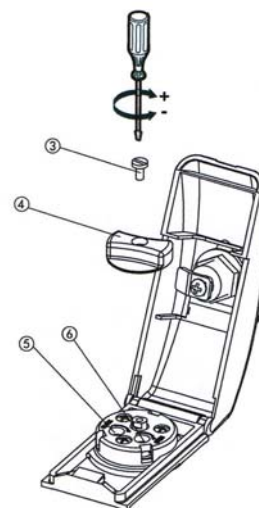

Figure 6. Locking Cap Assembly
- Turn the key 90° clockwise to open the locking cap cover.
- Refer to figure 6 for the following procedures)
- Remove the screw (3) which secures the knob (4) and then remove the knob.